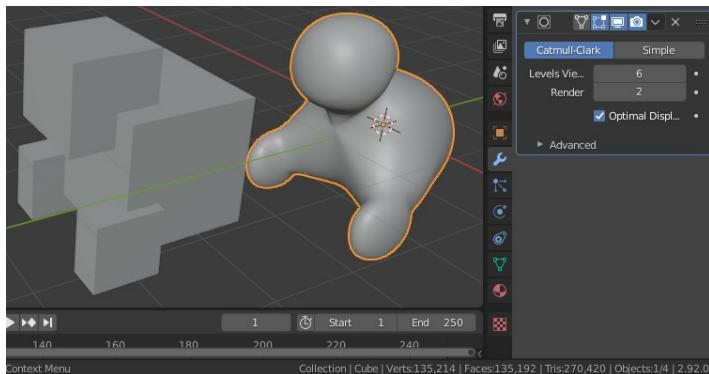
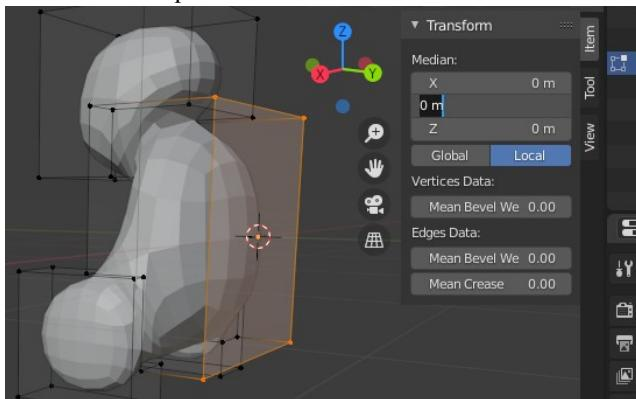

Figure 2-5 Don't subdivide too much.
Figure 2-6 Alter the position of a selection of vertices.
2. Add a second cube, scale it down slightly, then use the Boolean modifier to add the smaller cuboid shape to the initial cube three times, applying the modifier each time. Add the cubes on the side facing the negative Y direction (so the description below is easier to follow when I refer to X and Y; see Figure 2-5). Delete the smaller cube when you have finished adding it.
6. Click the cross next to the little drop-down (top-right of Figure 2-5) to remove the Bevel modifier, then switch to Edit mode and select the four vertices on the unaltered side of the original cube. Select **View** ▶ **Sidebar**, click the Item tab, and **Transform** the values, setting the **Y** value of the vertices to **0**. Figure 2-6 shows the process.